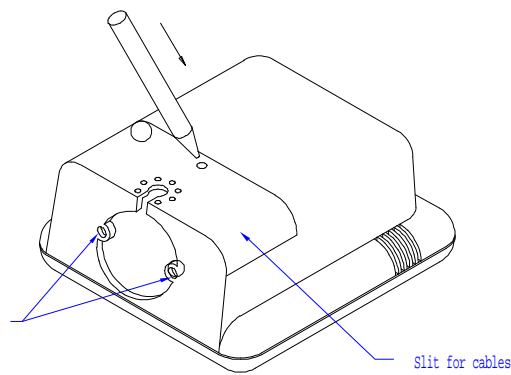

Figure 2.1
1. Locate the small hole at the back cover of the scanner. Press it with the tip of a stick to remove the back cover of the scanner as illustrated in figure 2.1.
- Press the small hole at the back cover of the scanner with the tip of a stick to remove the back cover, as illustrated in figure 2.1.